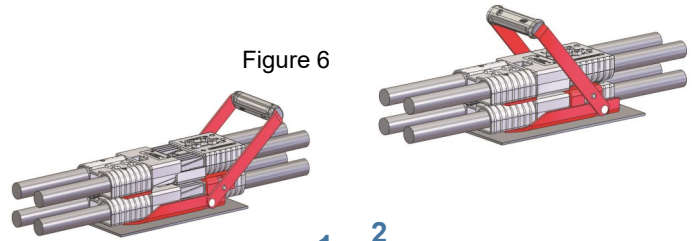

Figure 6
9. Push the Handle so that the Connector Assemblies are mated as shown (see figure 6). If there is a slight gap between connectors, force the battery connector assembly forward until the gap is closed before tightening the bolts